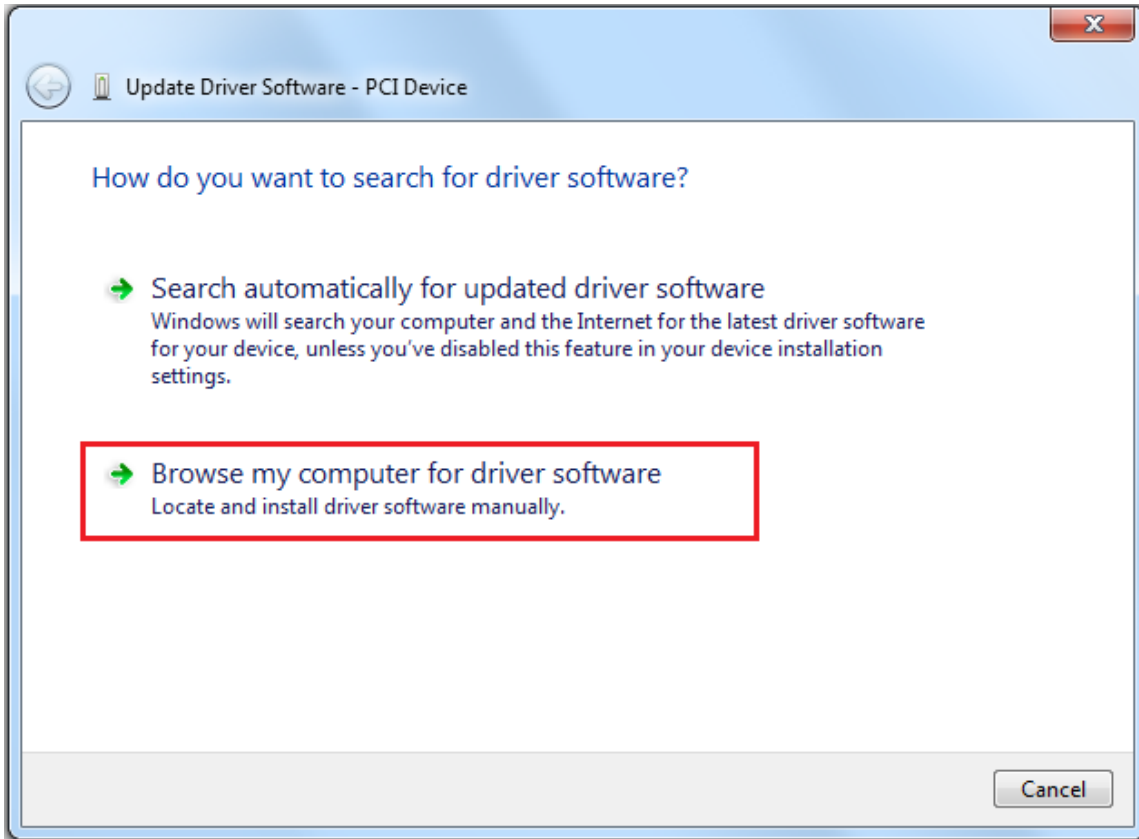

Figure 26: Driver Installation - Browse for Driver Software
2. In the **Update Driver Software - PCIe Device** window, select **Browse my computer for driver software** as shown in Figure 26.